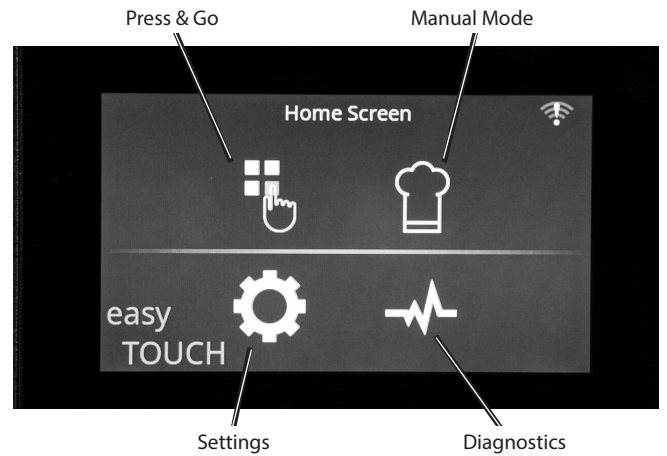

Figure 2
- The display screen will energize and show the Lincoln oven model number and current software Version (Figure 1). This screen will transition after a few seconds to the Home Screen (Figure 2).
2. The **Home screen** displays 4 buttons: **Press & Go**, which takes you to the Recipes screen; **Manual mode**; the **Settings** screen; and the **Diagnostics** button, which provides basic information about your oven. (Figure 2)